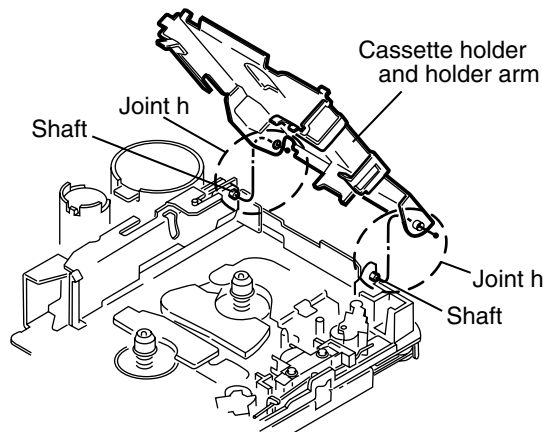

Fig.8
■ Removing the Cassette mechanism assembly (See Fig.8)